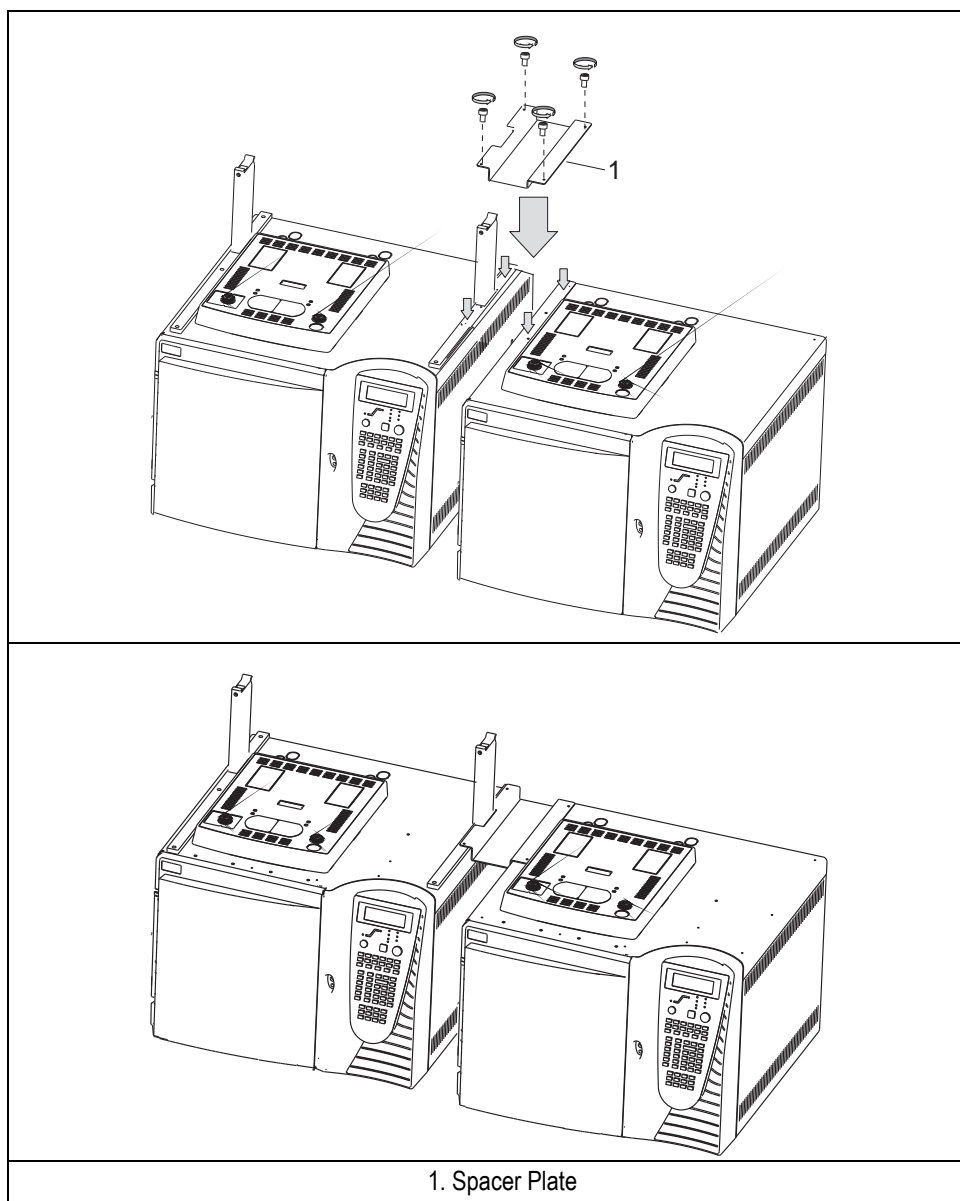

Figure 3-8. Mounting of the Spacer Plate
3. Mount the spacer plate on the two GC units as shown in Figure 3-8.